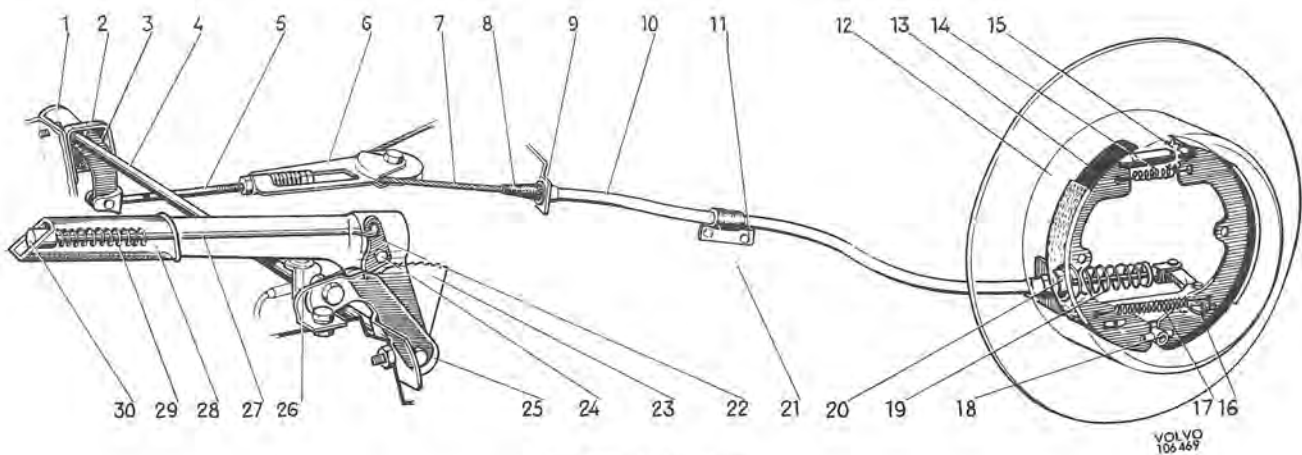

Fig. 5-78. Parking brake
The construction of the parking brake is shown in Fig. 5-78. The parking brake lever is mounted on the floor on the outside of the driving seat. The movement of the lever is transmitted via the shaft (4), lever and pull rod (5) to the pulley (6). From here the movement is transmitted through the cable (7) to the rear wheel brake units. At each rear wheel, the movements of the cable influence the lever (16), which is carried in a movable rod (17) on the brake shoes. The lower ends of the brake shoes are held pressed against the anchor bolt (18) by the lower spring. The upper ends are jointed through the adjusting devices (15) to which
4. Remove the rubber cover (8, Fig. 5-78) for the front attachment of the cable sleeve and the nut as well as the attachment for the rubber suspension ring on the frame member. Remove the cable from the other side of the attachment in the same way.
- Remove the split pin and stretch the cable so that the pull rod (5, Fig. 5-78) can be removed from the lever.
- Unscrew the button (30, Fig. 5-78) and remove the spring (29) from the parking brake lever. Remove the rivet (24) and take out the push rod (27) and the pawl (22).
- Fit the new parts in the reverse order, see Fig. 5-78. Make sure that the rivet is firmly fixed but does not obstruct the movement of the pawl. Lubricate the bushes with a thin coat of ball bearing grease. Do not forget to lock the pull rod and make sure that the rubber covers seal well.